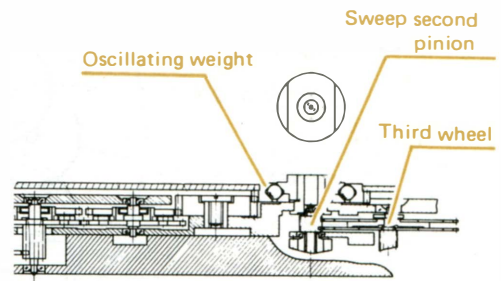

Fig. 4
- The oscillating weight is set by directly screwing the inner race of the ball bearing (Fig. 4) to the weight post of the barrel and train wheel bridge. As a special shaped head is on the inner race screw, an exclusive driver should be used for setting and removal. (Refer to 5 Assembly).